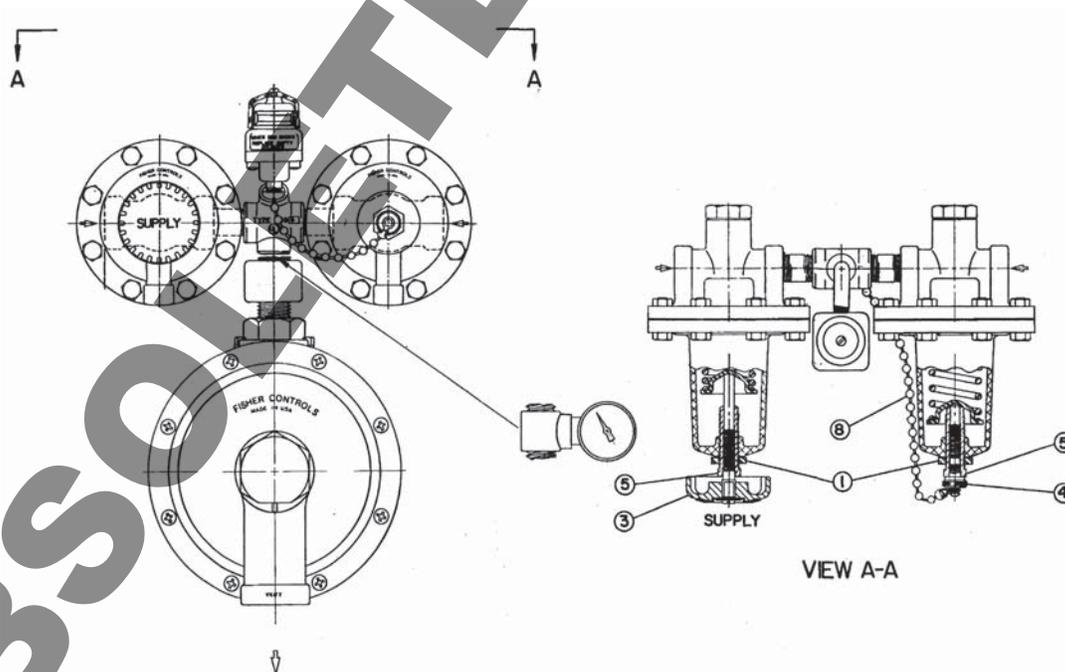

Figure 3. Assembly Drawing
Refer to figure 3. Once the “Supply” container is empty, remove the “Reserve” cap (4) which is attached to the chain assembly (8) and the “Supply” handwheel (3) by
To Change Settings in the Field: See Figure 3.